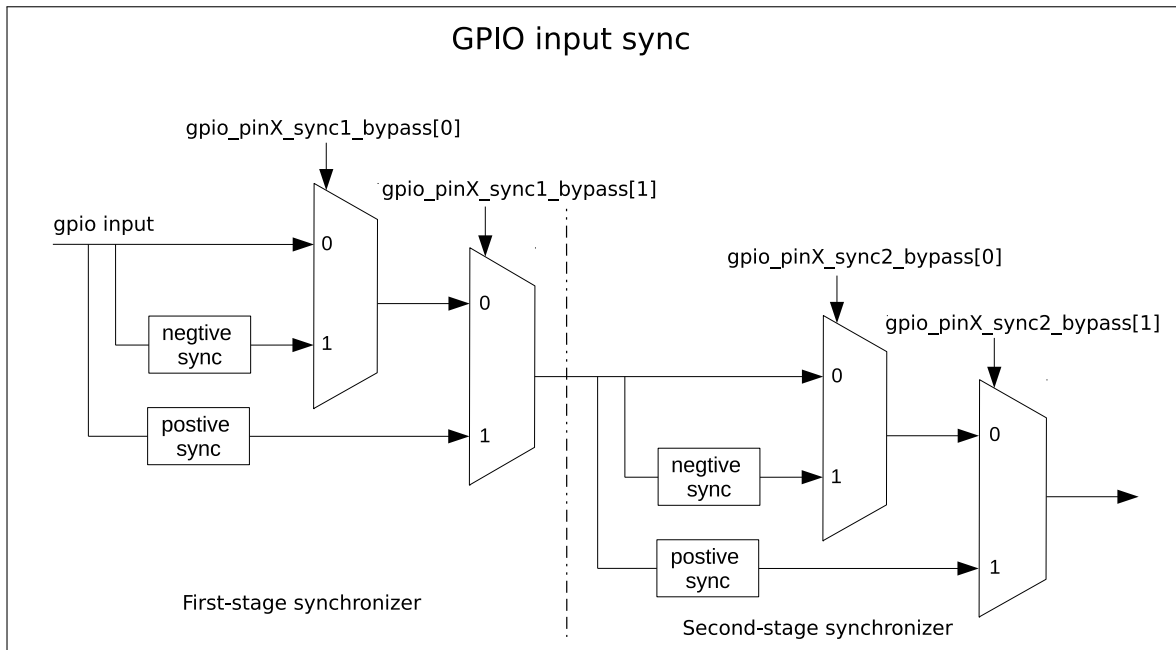

Figure 6-3. GPIO Input Synchronized on APB Clock Rising Edge or on Falling Edge
Figure 6-3 shows the functionality of GPIO SYNC. In the figure, negative sync and positive sync mean GPIO input is synchronized on APB clock falling edge and on APB clock rising edge, respectively.
- Set `GPIO_PINx_SYNC1_BYPASS` to enable input signal synchronized on rising edge or on falling edge in the first clock, see Figure 6-3.
- Set `GPIO_PINx_SYNC2_BYPASS` to enable input signal synchronized on rising edge or on falling edge in the second clock, see Figure 6-3.